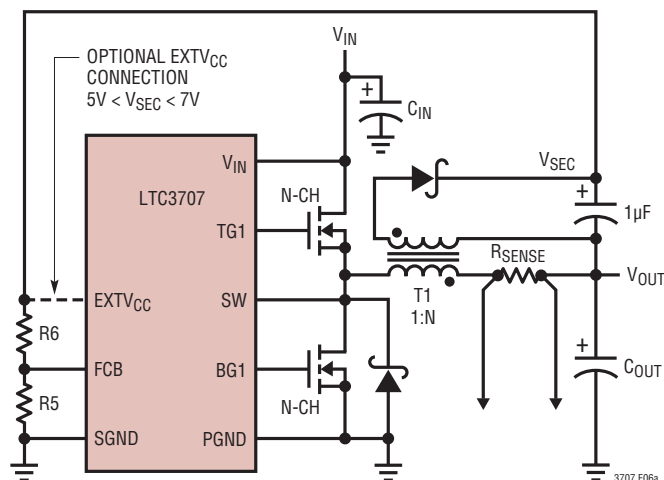
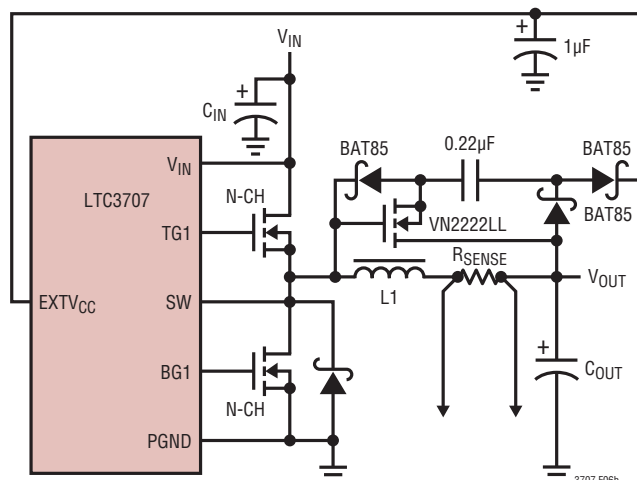

Figure 6a. Secondary Output Loop & EXT_{VCC} Connection
Figure 6b. Capacitive Charge Pump for EXT_{VCC}
4. $EXTV_{CC}$ Connected to an Output-Derived Boost Network. For 3.3V and other low voltage regulators, efficiency gains can still be realized by connecting $EXTV_{CC}$ to an output-derived voltage that has been boosted to greater than 4.7V. This can be done with either the inductive boost winding as shown in Figure 6a or the capacitive charge pump shown in Figure 6b. The charge pump has the advantage of simple magnetics.
The secondary output voltage V_{SEC} is normally set as shown in Figure 6a by the turns ratio N of the transformer: